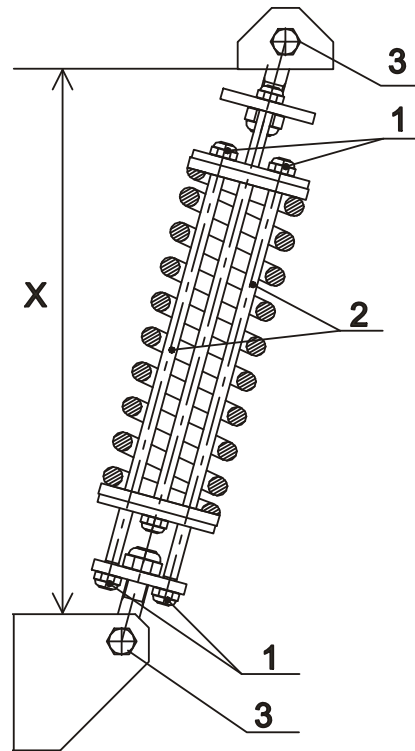

Fig.5.12.
1. Suspension spring eyes, fig.5.12, pos.3
2. Guiding bars of the springs, fig.5.12., poz.2
In case if the vibrating part of the machine is not in horizontal position without linen and water or if the replacement of spring unit has been made it is necessary to adjust the spring units, fig.5.12. Adjustment is performed by turning the nuts (1) by the same number of threads always at the same time on the opposite guiding bars (2) of the spring unit. Correct adjustment is performed only if the same gap „X“ between the board edge of vibrating part and the top area of frame is reached on all four corners of the machine's vibrating part.